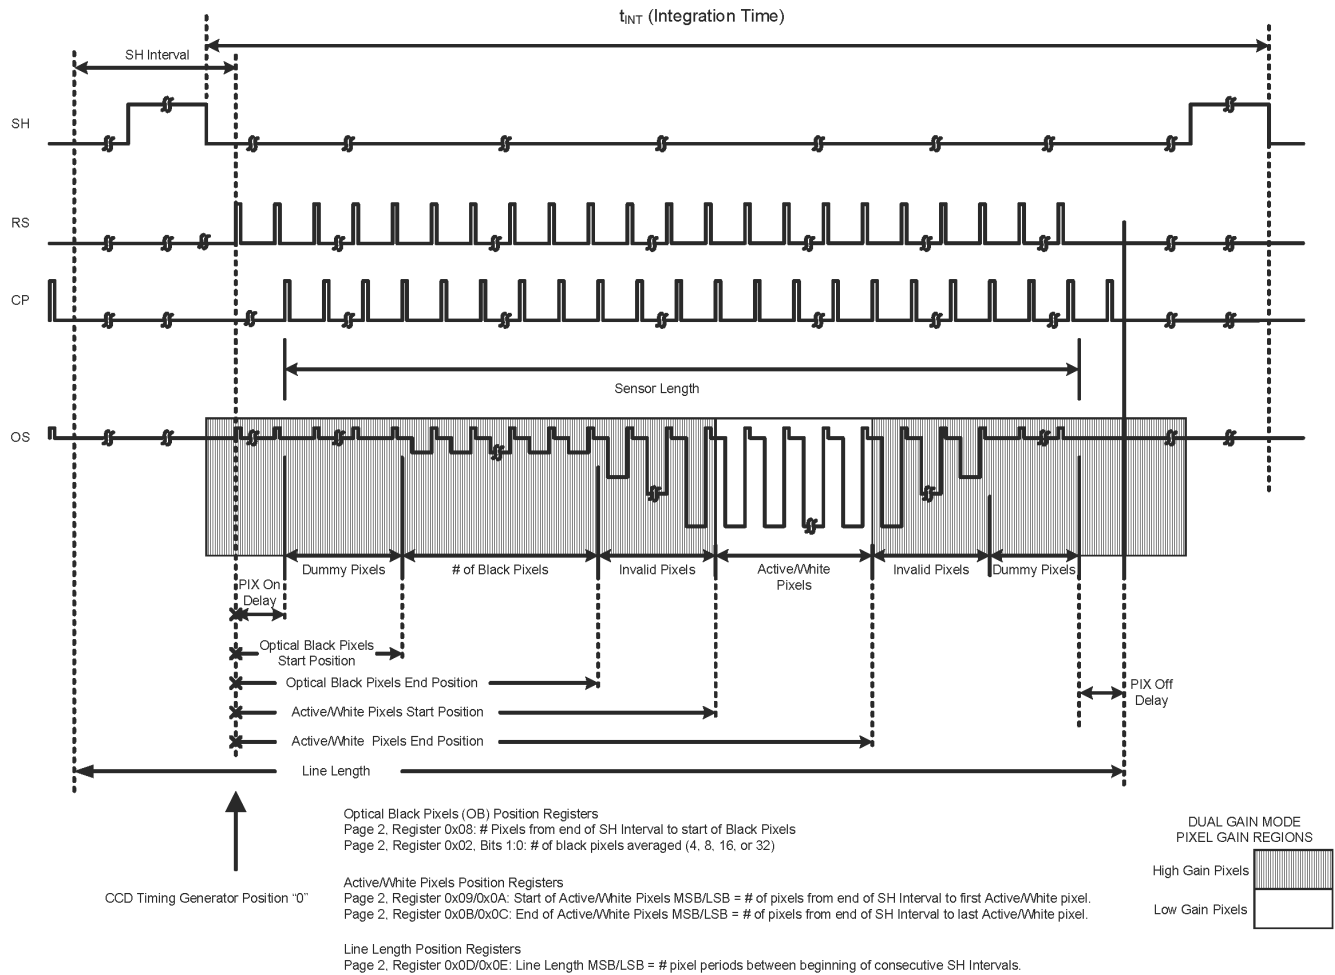

Figure 16. Typical Line Timing and Pixel Gain Regions
- In many scanning systems, the system illumination and optics characteristics will result in a much higher optical efficiency in the pixels near the middle of the sensor, compared with the pixels at the beginning and end of the sensor. If a single gain setting is used for all pixels, the middle pixels will be near clipping, while the ones at the edges can be at 1/2 scale or lower. This results in lower signal to noise for the edge pixels. To combat this problem, the LM98722 incorporates an optional Dual Gain system. When enabled, the system provides a second set of PGA gain registers to set the “high” gain for each input channel. The “normal” gain settings will be applied during the “active/white” pixels, while the “high” gain settings will be applied for all pixels before and after the “active/white” pixels (see Figure 16).
The White Peak value is determined by a moving window average done throughout the Active/White pixels region of the line (see to Figure 16). The size of the moving window is set at Page 2, Register 4, Bits[2:0]. 4, 8, 16 or 32 (default) pixels are averaged together at a time and compared with the previous Peak White value. If the new White Average is greater than the previous Peak White value, then the Peak White value is set equal to the White Average. The window is then shifted over to the next group of pixels (one window width) and a new average is calculated. This process is repeated until the Active/White Pixels End value is reached. The final Peak White value is then compared with the White Target value (Page 2, Register 5). The gain settings are then adjusted to make the Peak White value closer to the White Target value.